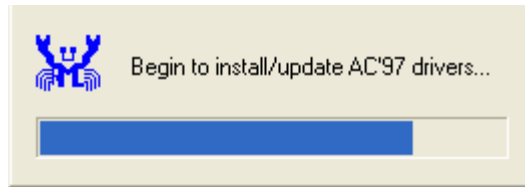

Figure 6-17: AC'97 Driver Installation
Step 9: The driver installation begins. See **Figure 6-17**.